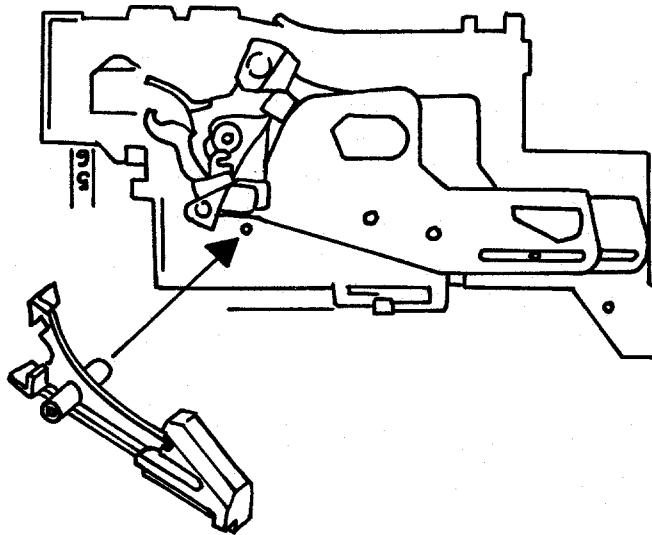

Fig. 34 Replacing the Shutter Latch
38. Pivot the Inertia slightly to the right and slip the Shutter Latch down onto the pivot beneath the Inertia (Fig. 34). It must mate with the S5 Actuator.